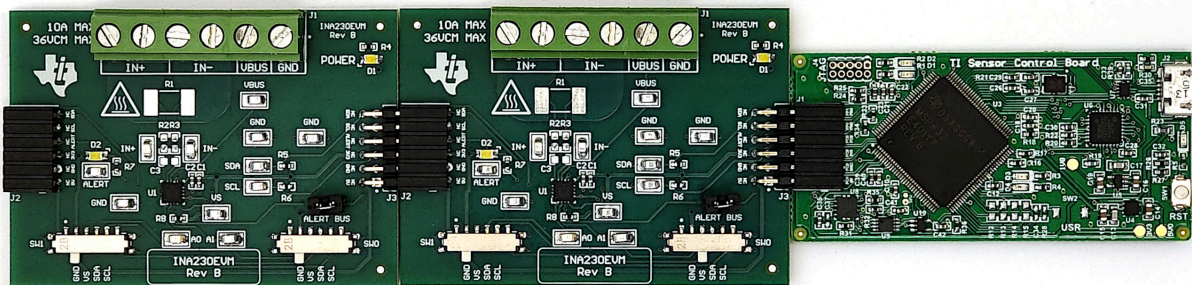

Figure 2-2. Multiple EVMs Connected to SCB Controller
- a. Refer to Figure 2-2 when connecting multiple EVMs of the same type together.
If using multiple EVMs, then connect them as shown in Figure 2-2. Make sure to use a different I2C address for each device. The GUI only supports up to 4 EVMs total.